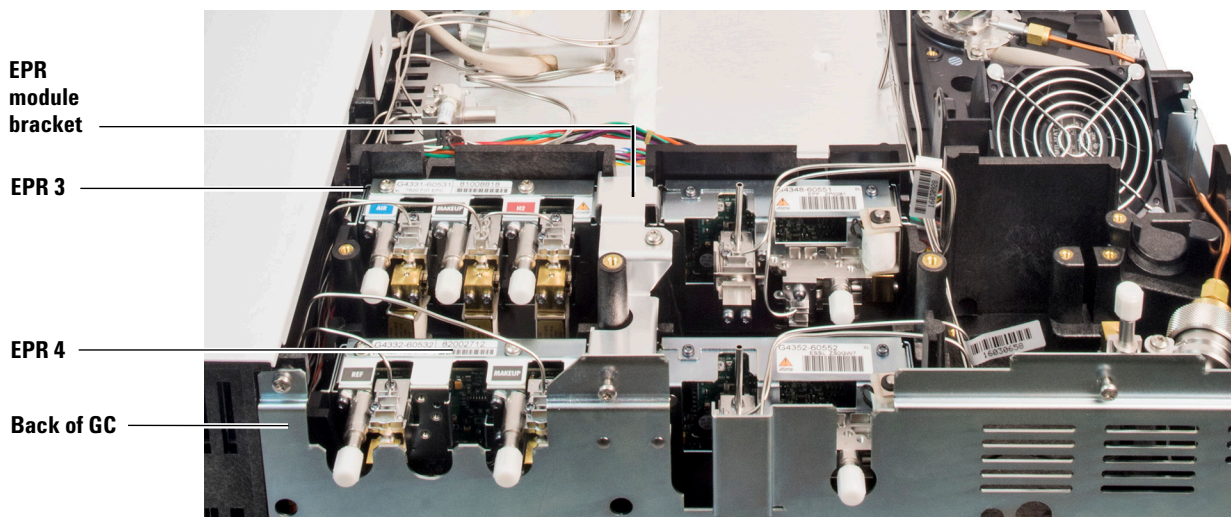

Figure 9 EPR module locations (shown with EPR modules installed)
- 1 Remove the EPR module bracket by loosening the captive screw and lifting the bracket off the GC. (See Figure 9.)